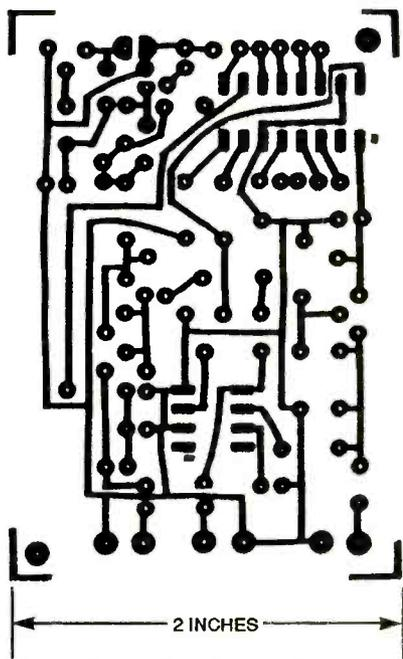
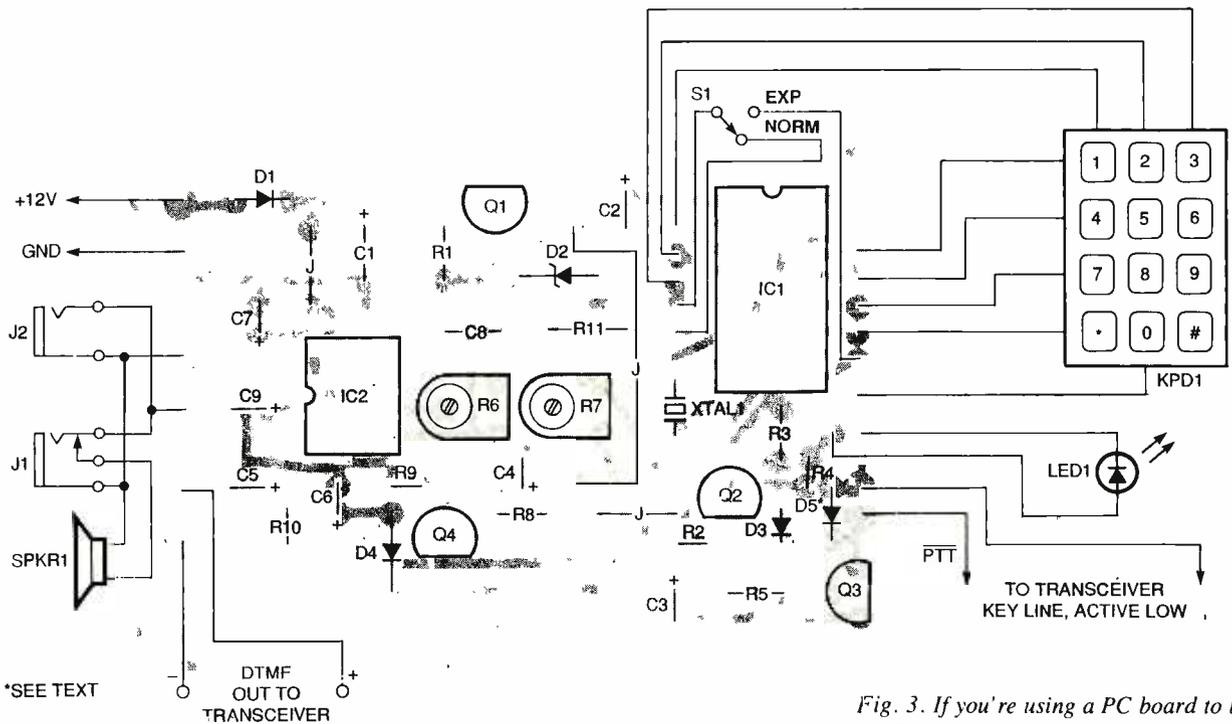

Fig. 2. Here's the full-size foil pattern for the Tone Pad PC board.
Fig. 3. If you're using a PC board to build the Tone Pad, this parts-placement diagram should make assembly easy.
an appropriate parts-placement diagram is shown in Fig. 3. Begin by installing the fixed resistors, except for R1 and R4. Then go on to mount the capacitors, making sure the electrolytic ones are oriented properly.
To complete the assembly, you will have to decide which jumpers to install and whether to add resistors R1 and R4. Those decisions depend on your intended application. Again, refer to Table 1 for configuration details. **Note:** Regardless of your application, all of the *un*-numbered jumpers shown in Fig. 3 must be installed!
**Construction.** The author's prototype was assembled on a small section of perforated board using point-to-point wiring. However, if you'd like to build the project on a printed-circuit board, you can use the foil pattern shown in Fig. 2 to etch and drill one. For those building the project on a printed-circuit board, a parts-placement diagram is provided in Fig. 3.